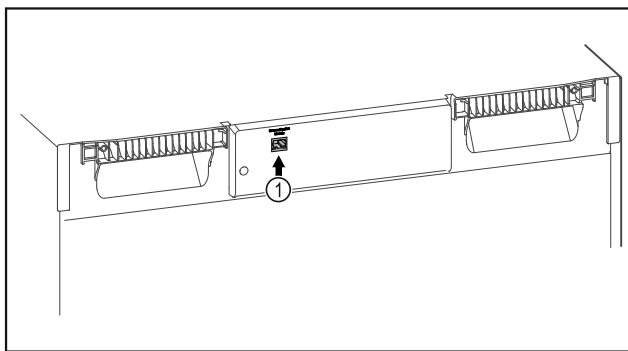

Fig. 142
- ❑ SmartModule Fig. 142 (1) is in use.